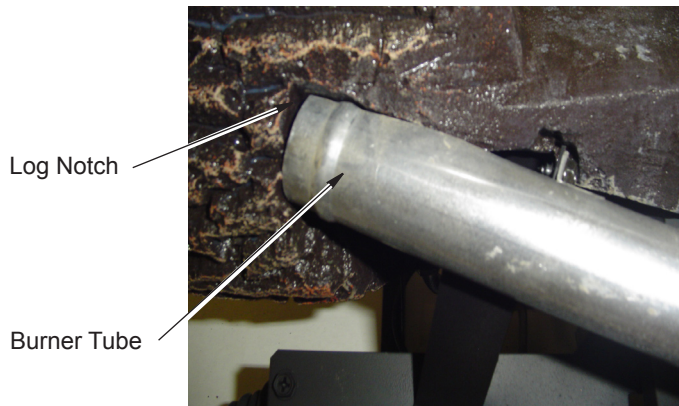

Figure 18A - Installing Back Left Log
2. Find the back left log (LMF42-SC: D-018 or LMF48-SC: D026). See Figures 18, 18A, and 18B. Figure 18A shows how the log must fit against the end of the burner. Figure 18B shows how the notch in log fits against the vertical portion of the burner tube. Place this log on the base assembly by inserting it from the left side as shown in Figure 18. You will need to twist the log slightly to get it to fit against the burners properly. It will rest even with the back edge of the pan.